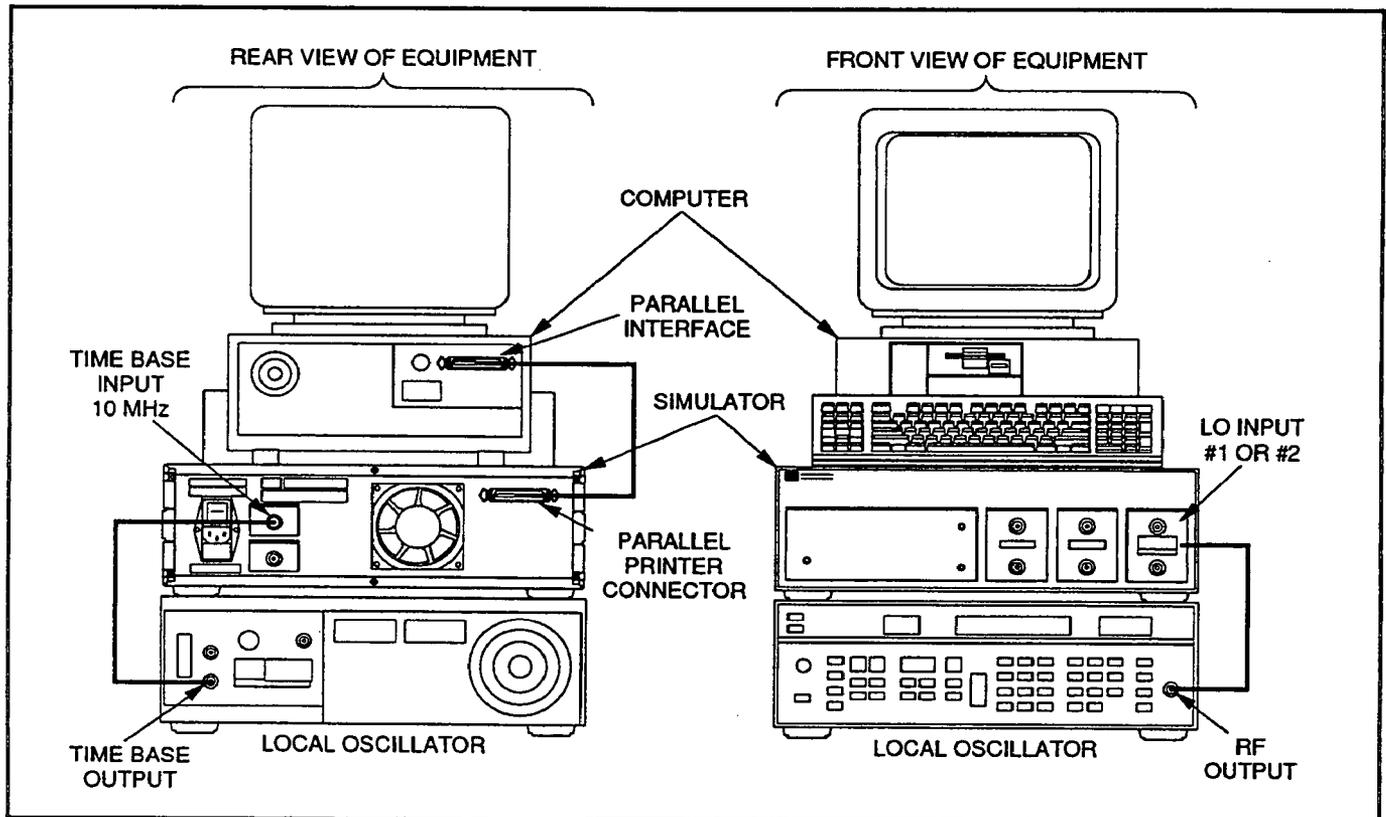

Figure 2-3. Set-up and Turn-On Procedures
1. Connect the Simulation System as shown in Figure 2-3.